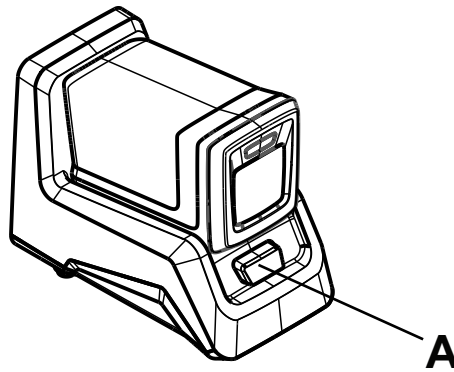

Figure 11 – Charging the battery
2. Press the battery release button (A) and slide the charged battery out of the charger (Figure 11).